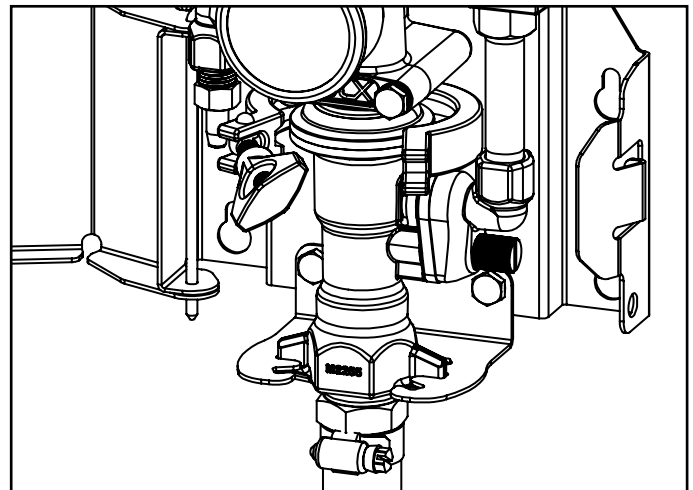

Fig. 8.2: Polypropylene lower support bracket
- **For Polypropylene Models:** Twist the lower foamer body and align the winglets to release it from the support bracket. [Fig 8.2]